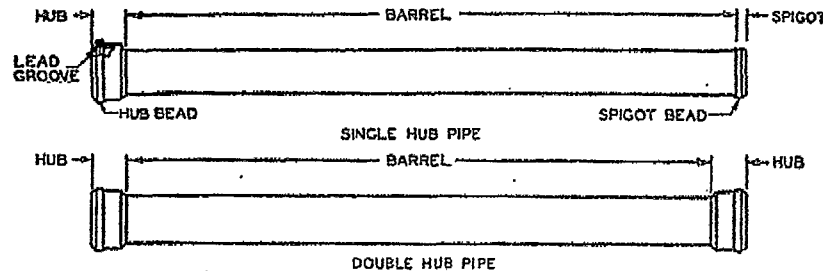

FIGURE 1. Single hub and double hub cast iron soil pipe.
2.2.1 Ends of pipe.—Single-hub pipe shall have a hub at one end and a spigot at the other. Double-hub pipe shall have a hub at each end. Hubs shall have lead grooves. Spigot end may be either with or without a bead, and inner end of hub may be either with or without a centering recess, all combinations of which shall make a satisfactory leakproof joint. Hub and barrel shall be cast in one piece. (See Fig. 1.)